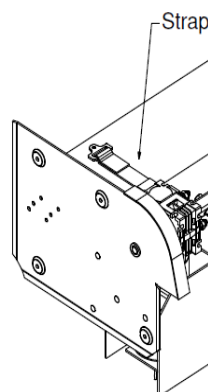

Fig. 7
- Place the operator shaft into the U-Brackets on the pennant plates. The tension pin and label shall be on the right while looking into the compartment as shown in Fig. 7.